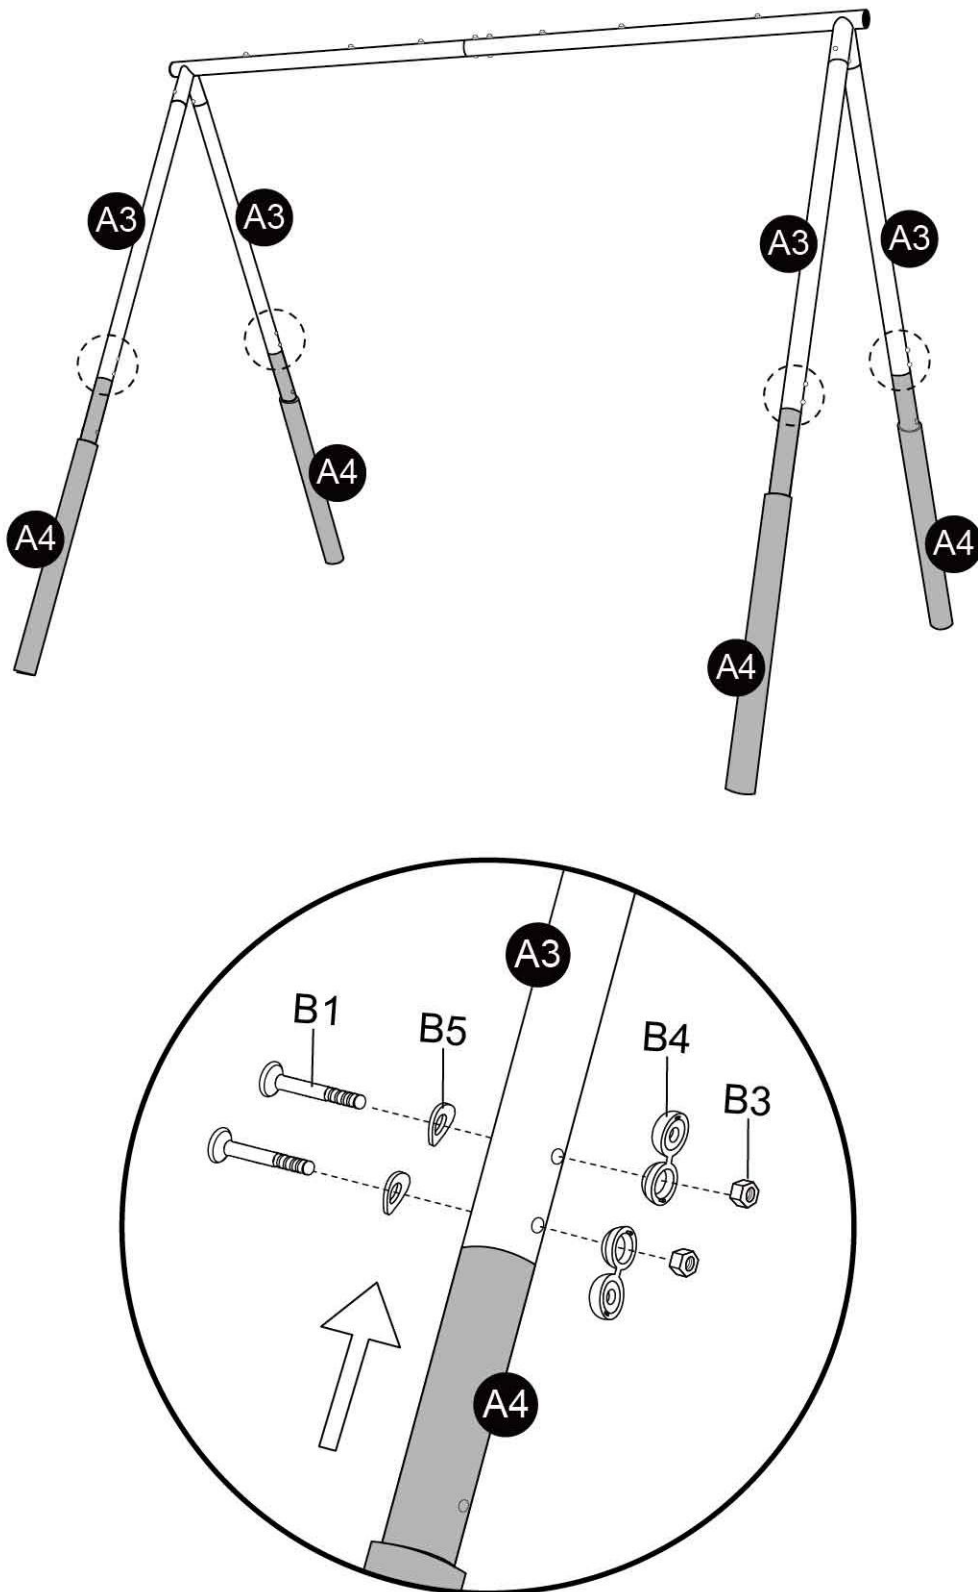

FIGURE 3
- Connect Leg with foam (A4) to Top Section Leg (A3) and secure them together using B1, B5, B4 and B3 as shown in the enlarged diagram of FIGURE 3.